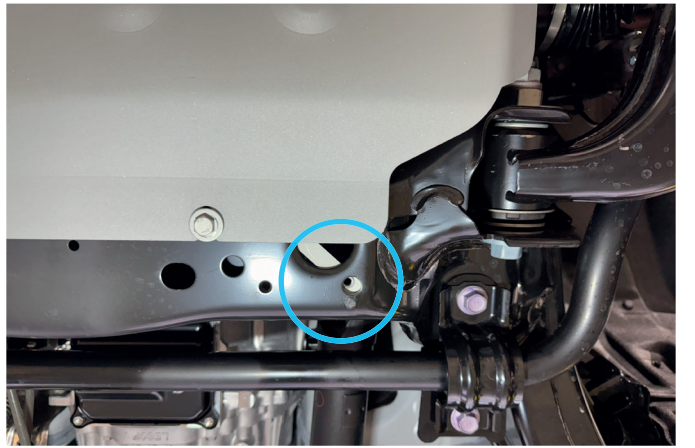

Fig. 8
***Fig.8 shows proper placement of insert nut inside frame on the drivers side.**